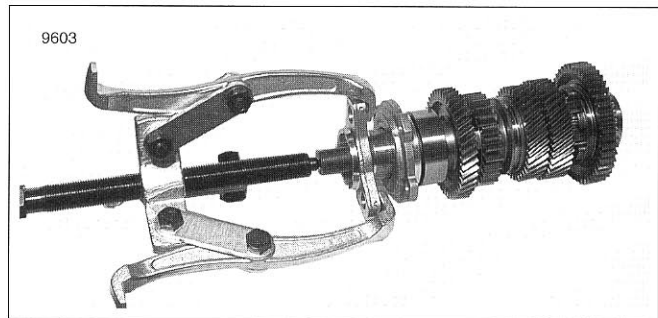

Figure 7-3. Output Drive Flange
3. See Figure 7-3. Remove output shaft drive flange and seal retainer.